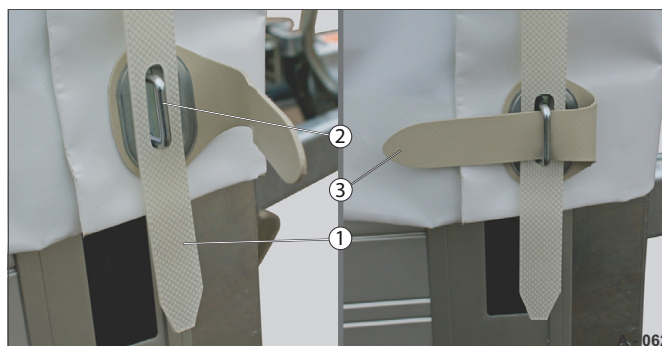

Fig. 70 Secure belt
- Thread the belt (Fig. 70 /1) from top to bottom into the rings (Fig. 70 /2).
- Push the buckle (Fig. 70 /3) through the vertical ring.